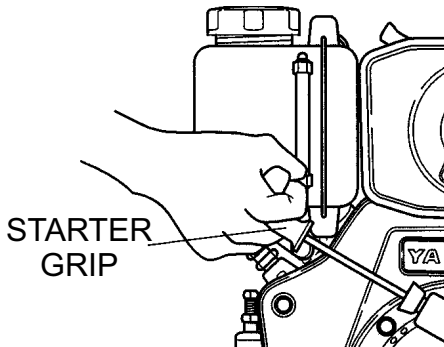

Figure 42. Recoil Starter Grip
4. For recoil type compactors, push the decompression down (non-decompression position) and hold it while you pull the recoil starter grip (Figure 42) rope 2 or 3 times. **DO NOT** start the engine.